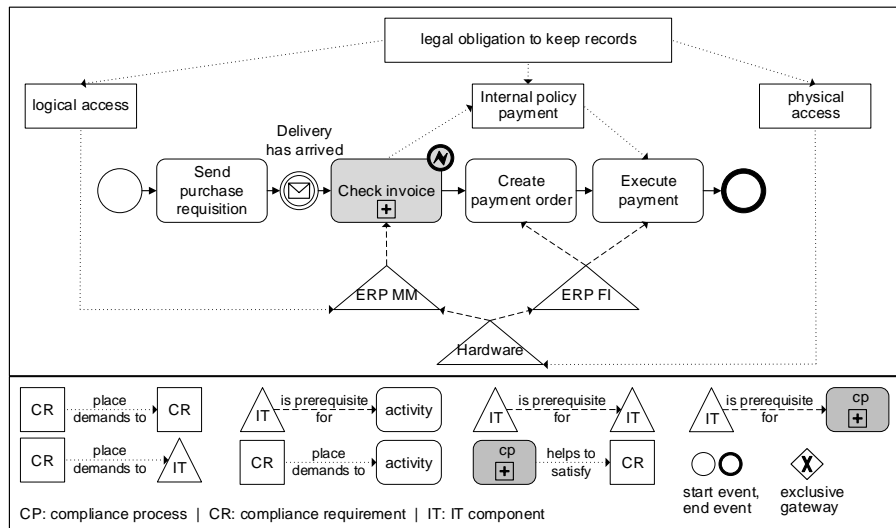
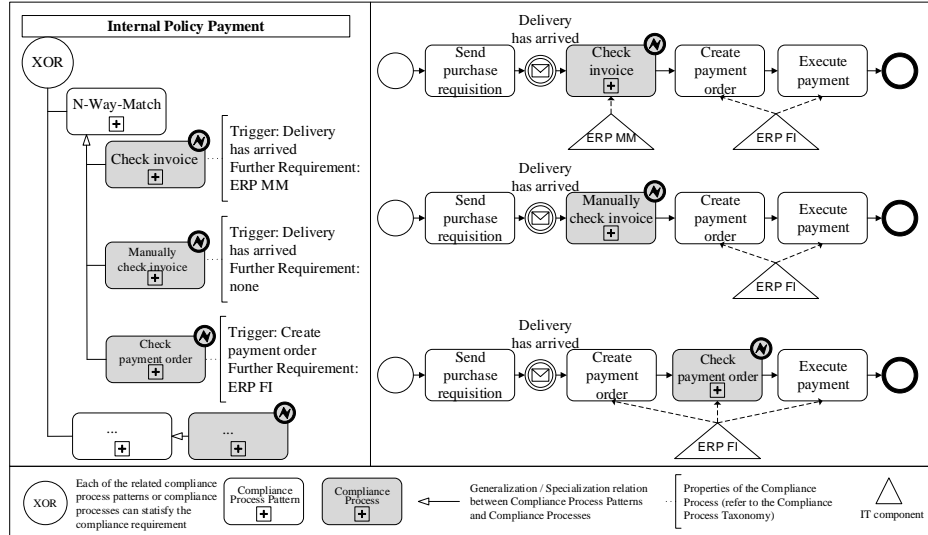

Fig. 1. Motivation scenario
Fig. 2. Alternative compliance processes and recommended compliant purchase to pay processes
The goal of this tutorial is (1) to demonstrate the feasibility of modeling the motivation scenario introduced in the paper, and (2) to demonstrate the feasibility of modeling the interrelations of alternative compliance processes and their integration into the business process (Figure 1 & Figure 2).